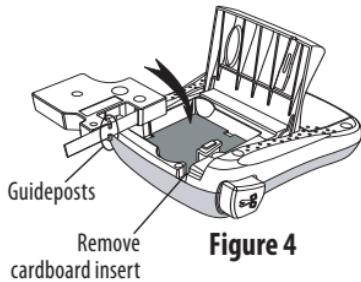

Figure 4
- (i)** Before using the label maker for the first time, remove the protective cardboard insert from the tape exit slot. See Figure 4.